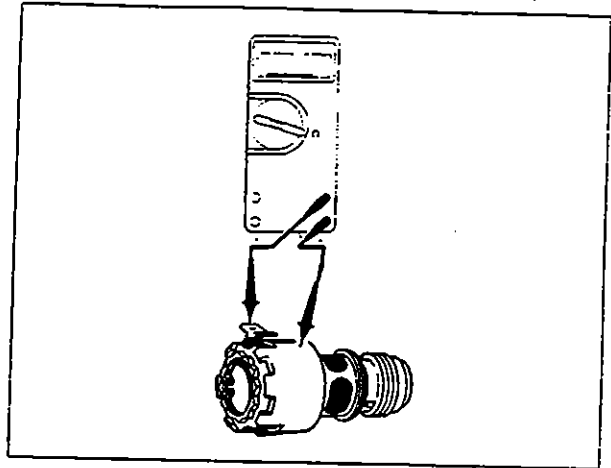

Fig. 1.1.30
**Correction:** Measure resistance of each solenoid valve (Fig. 1.1.30). Solenoid valves not within correct values must be replaced.